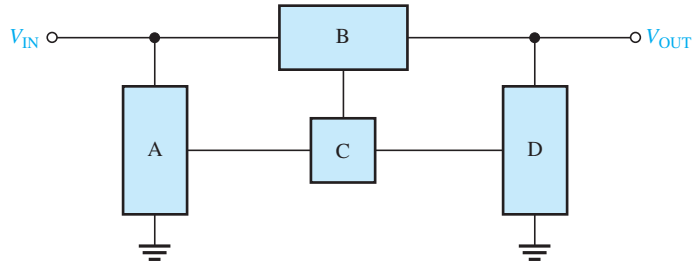

FIGURE 11-39
5. Label the functional blocks for the voltage regulator in Figure 11-39.